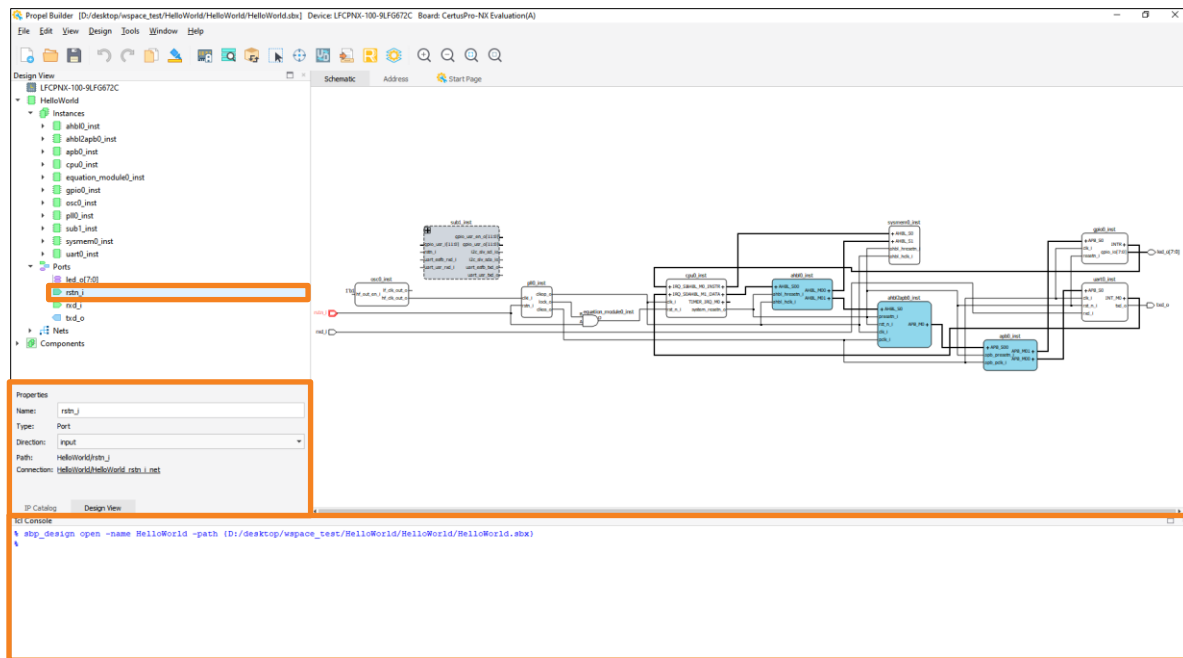

Figure 2.102. Properties of Port
- a. Click on a port, **Properties** window open (Figure 2.102).